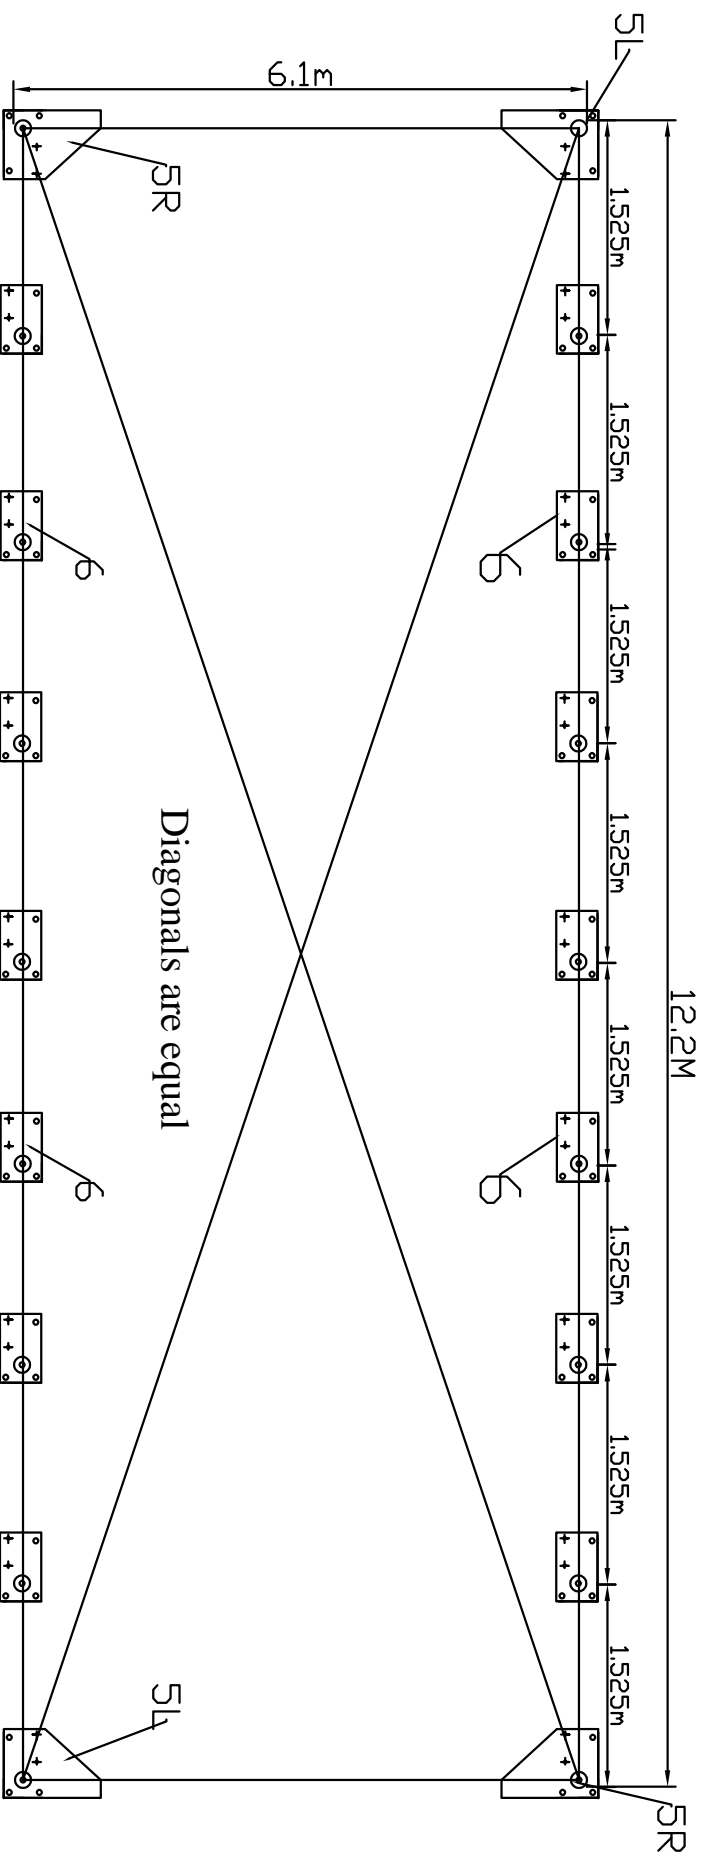

Figure 2 Position of Base Flanges
Begin by determining exact location of the four (4) corners of the building. Mark front edge and side-to-side width of assembly on ground. Drive alignment stakes into the ground outside of the markings, and draw alignment strings along both ends and sides of the building to the dimensions shown in Figure 2. The outline of the strings will represent the final location of the base flanges. The initial location of each Corner Base Flanges (5R & 5L) is critical to the alignment and fit of the frame components and cover.
Locate the Left Corner Base Flange and Right Corner Base Flange(5R&5L). Secure the base flanges with Stake Pegs (Part #13. Measurements shown in Figure 2 are to the center of the upright sockets on each Base Flange. The Shelter must be secured to a firm surface that can receive and retain augers and pegs firmly in position. The shelter should be installed on FIRM GROUND, not on SWAMP, SOFT/WET GROUND. The Base Flanges must be secured so they cannot be moved. Arches are tensioned at their base as they insert into the Base Plate sockets.